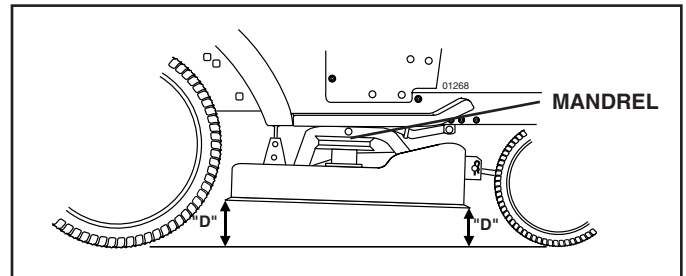

FIG. 27
**FRONT-TO-BACK ADJUSTMENT** (See Figs. 27 and 28)